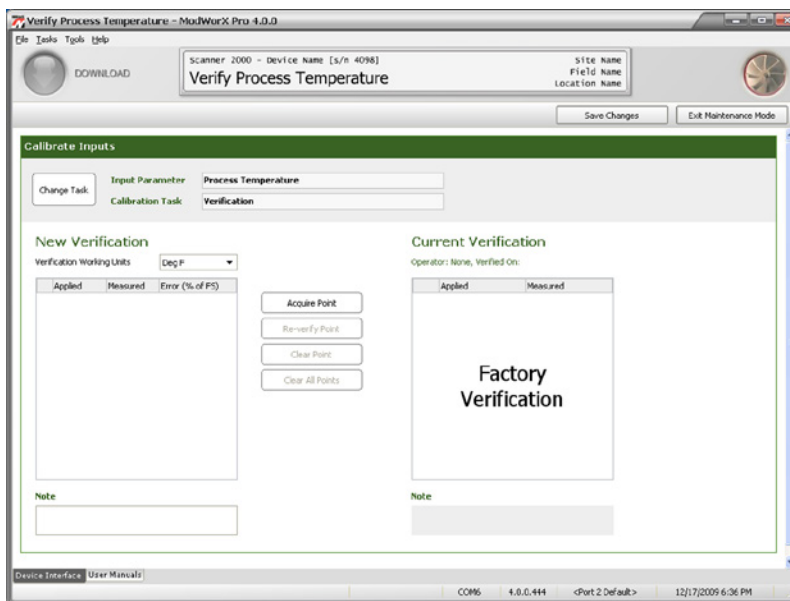
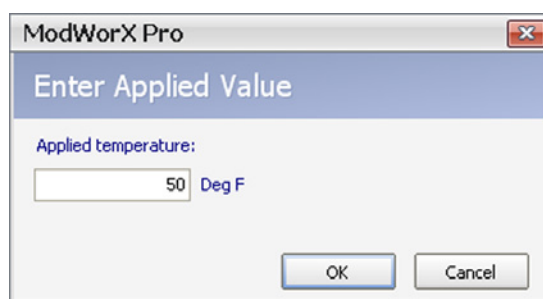

Figure 8.18
Figure 8.19
3. The Verify Process Temperature screen will appear, and the input parameter and calibration task selections you made will appear at the top of the screen (Figure 8.18).
- Apply a known temperature to the calibration test device (for example, 50 degrees F) and click **Acquire Point** (Figure 8.18). An Enter Applied Value dialog will appear (Figure 8.19).